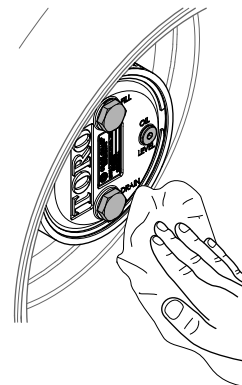

Figure 64
3. Wipe clean the planetary and brake housings (Figure 64).